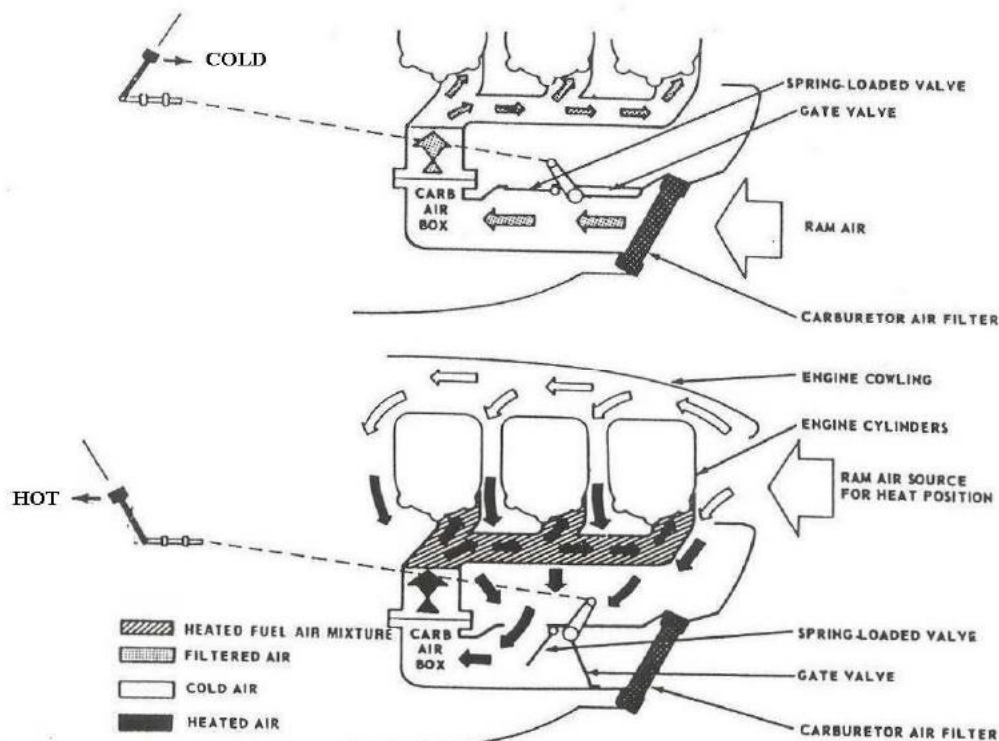

Figure 1-7 Air Induction System
31. The carburettor heat lever is the inboard lever on each quadrant. The carburettor heat positions are labelled COLD (forward) and HOT (aft). When the lever is in the COLD position, cold air is admitted to the carburettor through the air intake scoop and air filter on the front lower side of the cowl. When the lever is moved to the HOT position, a gate valve closes off the cold-air intake opening from the carburettor. With the gate valve closed, a partial vacuum is created in the carburettor air box, causing a spring-loaded valve to automatically open, thereby admitting unfiltered hot air from around the cylinders to the carburettor. If the engine should backfire when the lever is in the HOT position, the spring loaded valve in the carburettor air box will automatically close, causing the gate valve to be forced slightly open, allowing the backfire gases to escape past the gate valve and through the carburettor air filter. Figure 1-7 illustrates system operation.